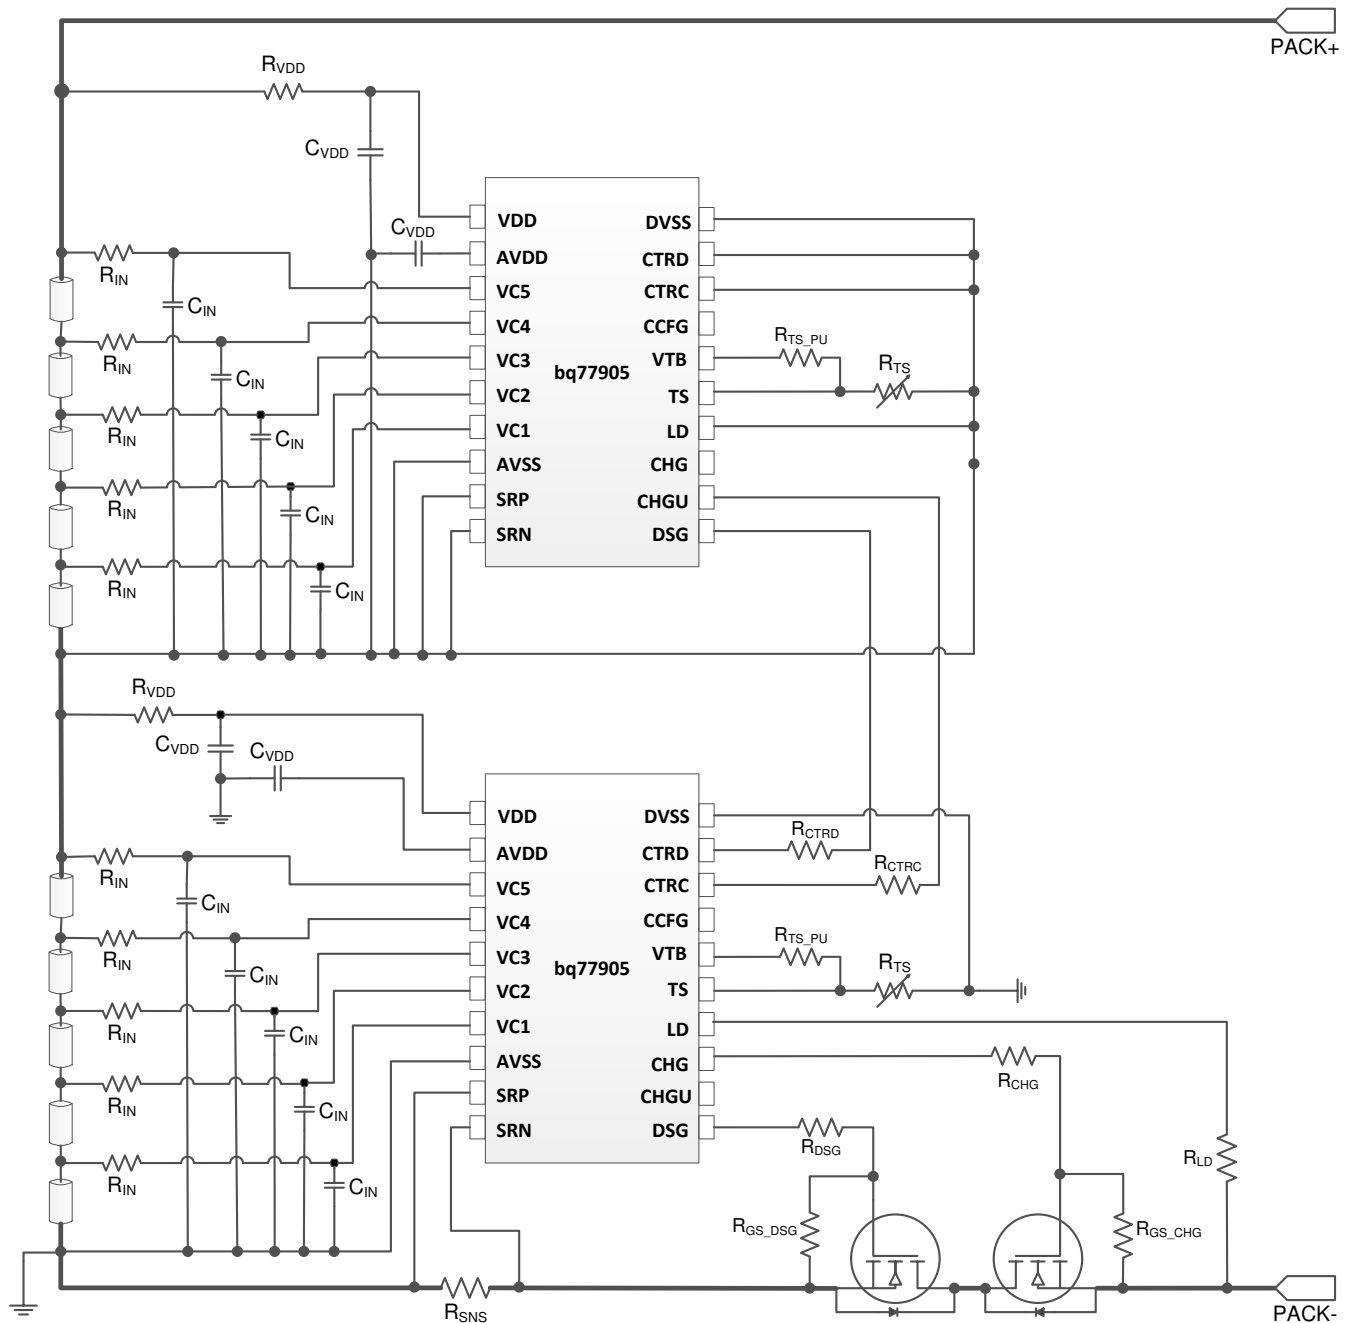
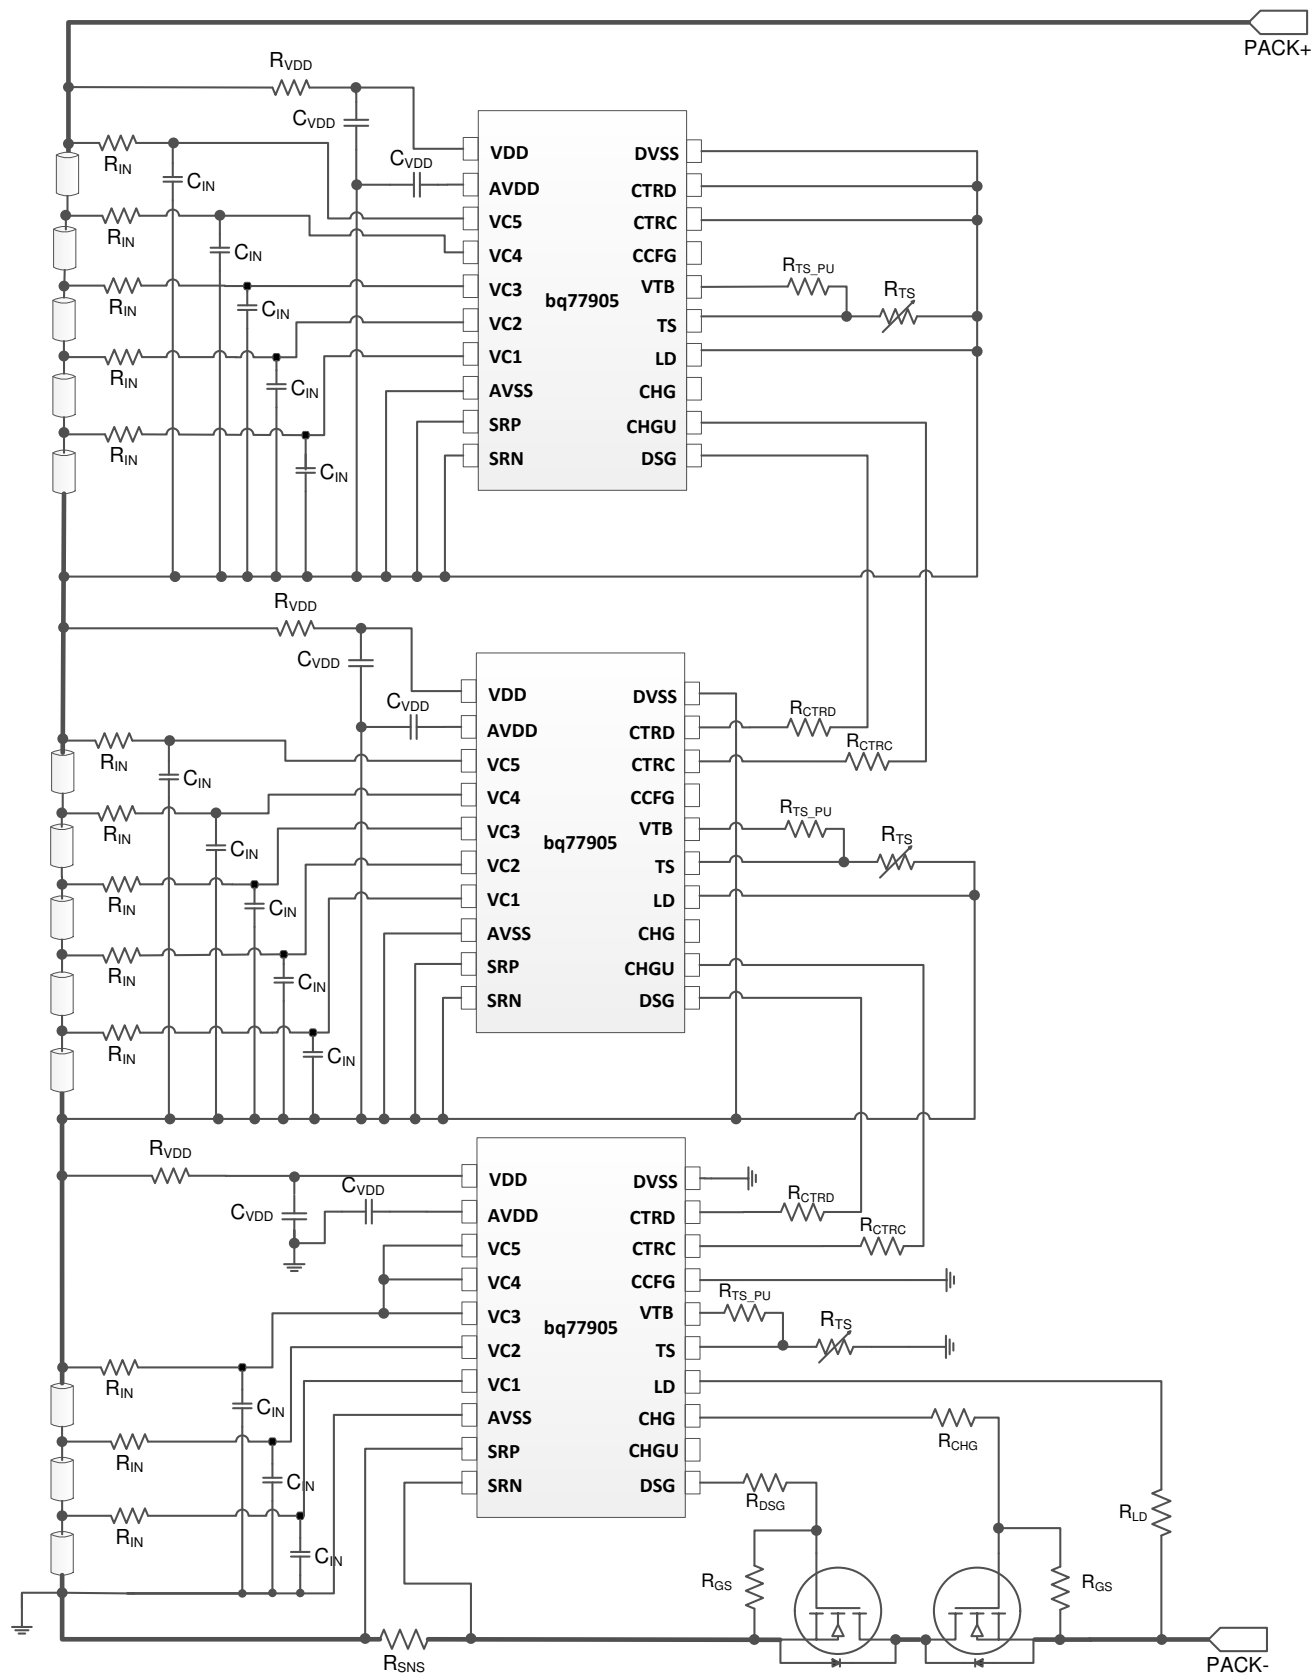
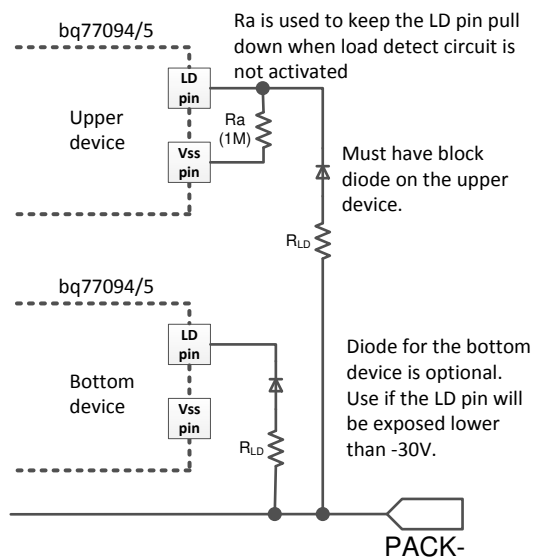

Figure 8-9. 10S Pack Using Two BQ77905 Devices
Figure 8-10. 13S Pack Using Three BQ77905 Devices
Figure 9-7. Simplified Circuit: LD Connection on Upper Device When Using for UV Fault Recovery
- If load removal is not used for UV recovery, connect the upper device LD pin to its AVSS pin, as shown in Figure 8-9 and Figure 8-10. Otherwise, refer to Figure 9-7 for proper LD connection.
To ensure load removal is detected properly during a UV fault, TI recommends to use 3.3 M Ω for R_{GS_CHG} (instead of a typical of 1 M Ω when load removal is NOT required for UV recovery). R_{CHG} can stay in 1 M Ω as recommended when using CHG FET protection components. The CHG FET rise time impact is minimized as described in the Protecting CHG FET section. On a stacked configuration, connect the LD pin, as shown in Figure 9-7 if load removal is used for a UV fault recovery. If load detection is not required for a UV fault recovery, a larger value of R_{GS_CHG} can be used (that is, 10 M Ω) and the LD pin on the upper devices can be left floating.